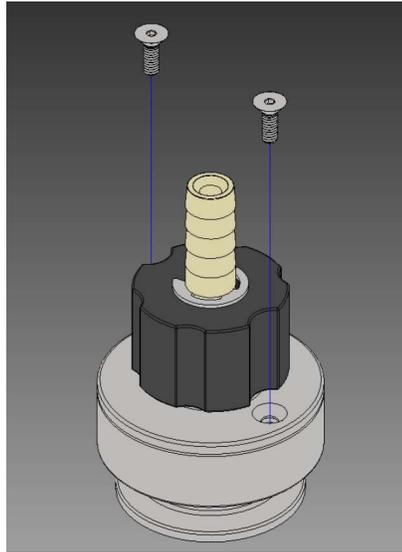

FIGURE F. 2. – SCREW REMOVAL
2. Loosen screws and remove from valve body and remove (see Figure F.2.)